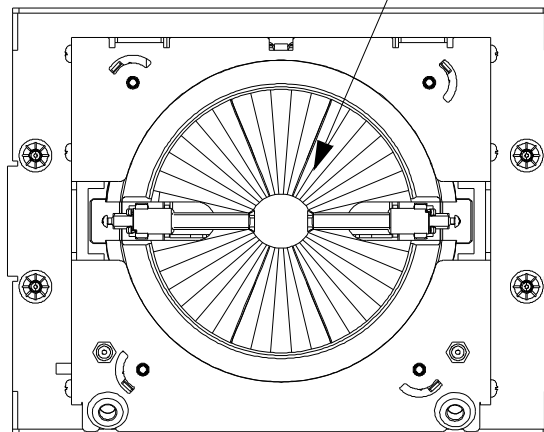

Figure 4-2: Replacing the Lamp
- Step 3. At lamp access door, loosen four captive screws (two on each side). Refer to **Figure 4-2** on next page.